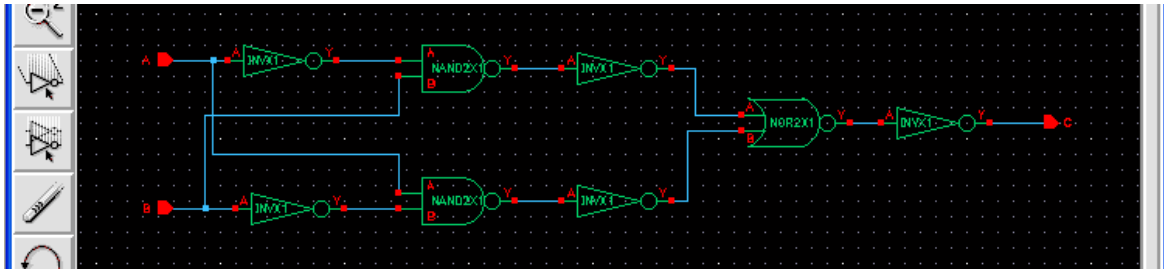

Fig. 2: Schematic for an XOR gate.
- Build the schematic for an XOR gate shown in Fig. 2 below.